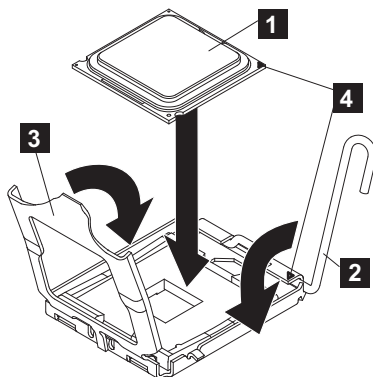

Figure 312. Closing the SAN Volume Controller 2145-CG8 or 2145-CF8 microprocessor-bracket frame
- Align the triangular alignment mark (**4** in Figure 312 on page 373) on the microprocessor installation tool with the triangle alignment mark on the microprocessor. Then, place the microprocessor on the underside of the tool so that the tool can grasp the microprocessor correctly onto the bottom of the installation tool.
To align the microprocessor with the socket, use the triangular alignment cutout on the microprocessor socket and the triangular alignment mark (**4** in Figure 312 on page 373) on the microprocessor. Also, use the position of the notches to align the microprocessor.